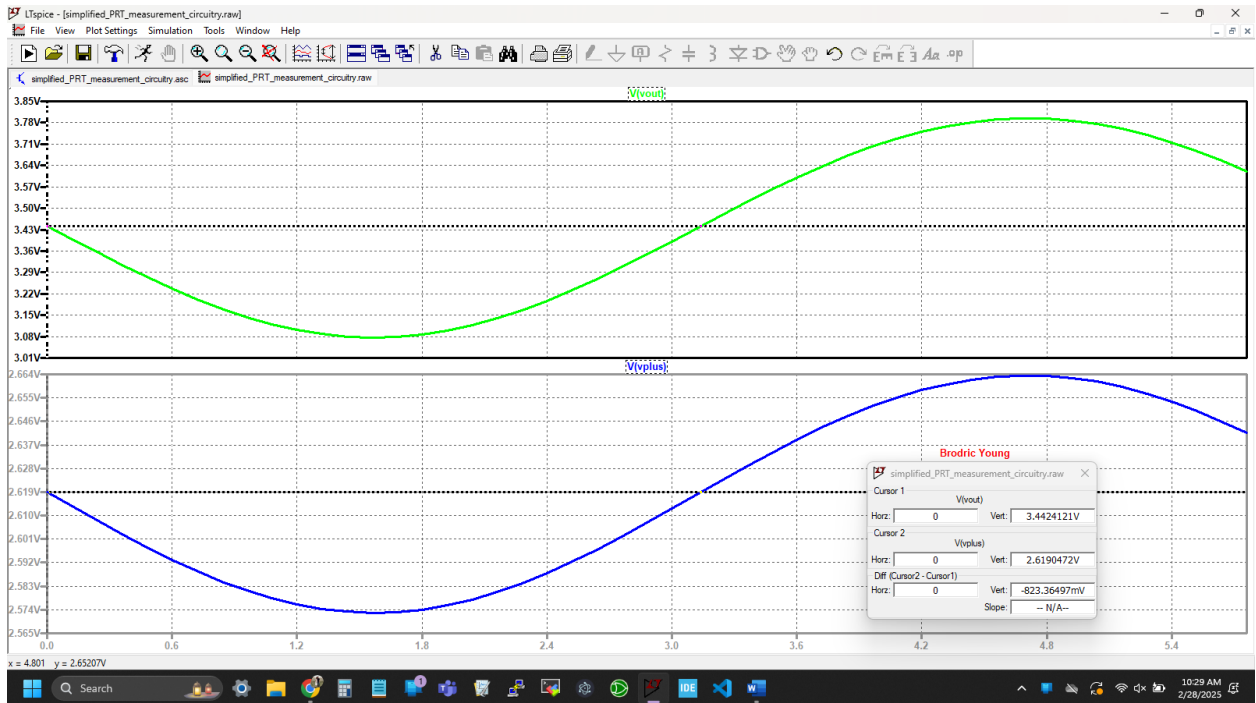

Figure 4: Simulated V_{out} and V_{plus} for the PRT Measurement Circuitry of Figure 3.
- Drag this cursor pane onto the Plot Pane, then resize the plot Pane to increase the height with respect to the width, resulting in a Plot Pane looking like the one shown in **Figure 4** below. Then in the **Plot Settings** pull-down menu on the main LTspice toolbar, annotate your plot with your name as follows: **Plot Settings** → **Notes & Annotations** → **Place Text**.
- Replace the plot pane in **Figure 4** below with your version, including the cursor pane illustrating appropriate voltages. (8 points.)